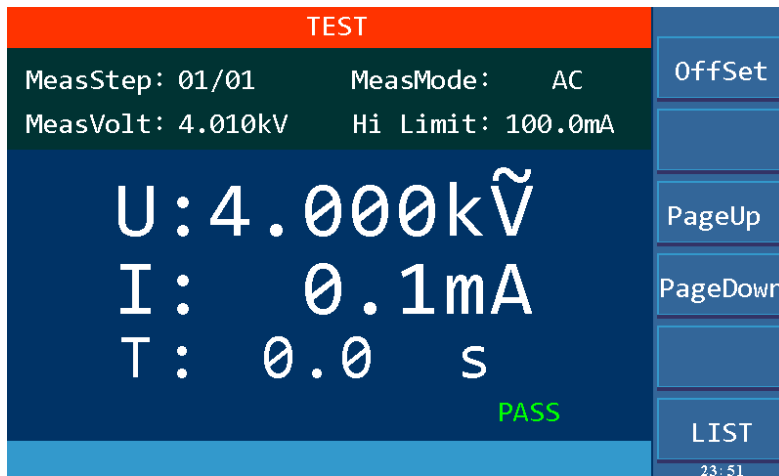
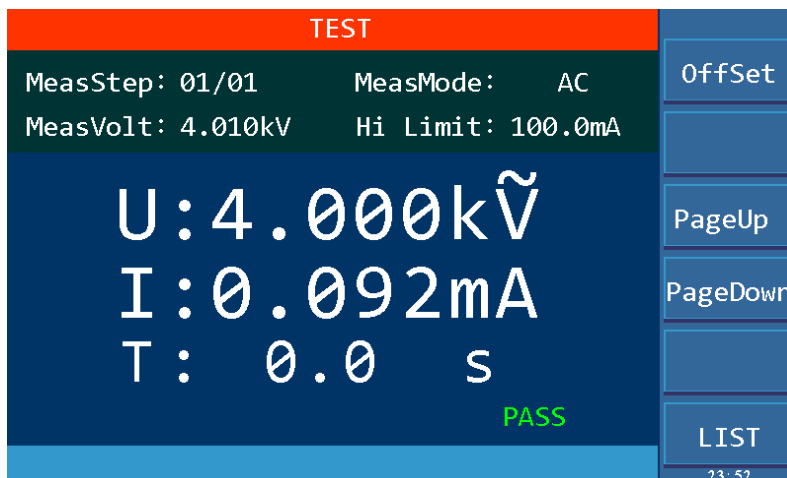

Figure4-4.2
Figure4-4.3
When the auto range, that is, the withstand voltage auto range function is set to ON, at 0.6S before the completion of the test, if the measured current can be expressed by the low current range, the current range is automatically changed to the low current range. Examples are shown in Figure 4-4.1 and Figure 4-4.2 and Figure 4-4.3.
- But the actual current is comparatively small, 0.4mA as shown in Figure 4-4.2.
- At 0.6S before the completion of the test, the current range is switched to the appropriate low range, which is 94.8uA in Figure 4-4.3.